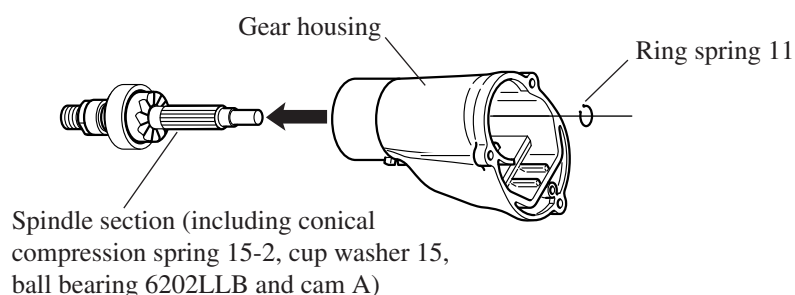

Fig. 14
1. After removing bearing retainer 20-36 and oil seal 19, disassemble ring spring 11 from spindle. And disassemble spindle section by pulling out from the drill chuck side of gear housing as illustrated in Fig 14.